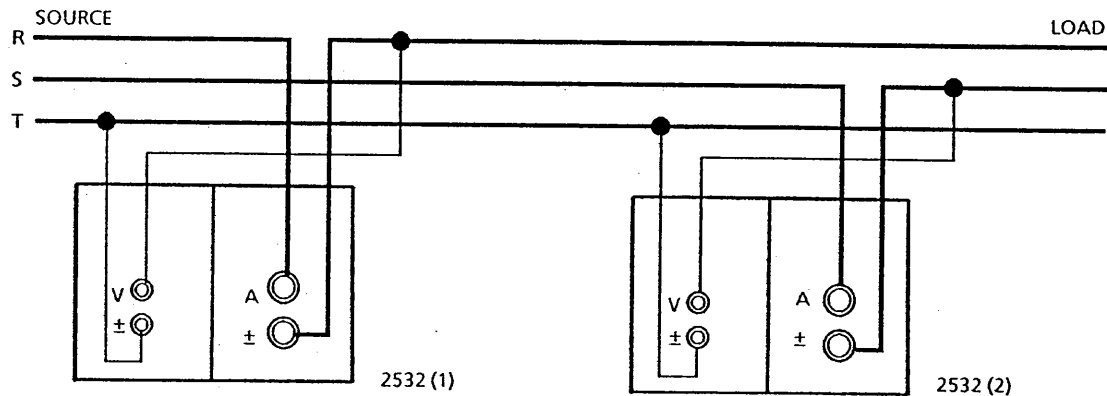

Figure 3.13
To measure 3-phase 3-wire power, use two 2532 instruments according to the two powermeter method, connecting as shown in Figure 3.13.
The wiring method shown in Figure 3.13 results in connections that do not follow the guidelines in CAUTION item (b) in Section 3.3.1 (1) (which suggest that the "±" terminals always be connected to the low side); see the discussion under that item concerning the error effects that may result.